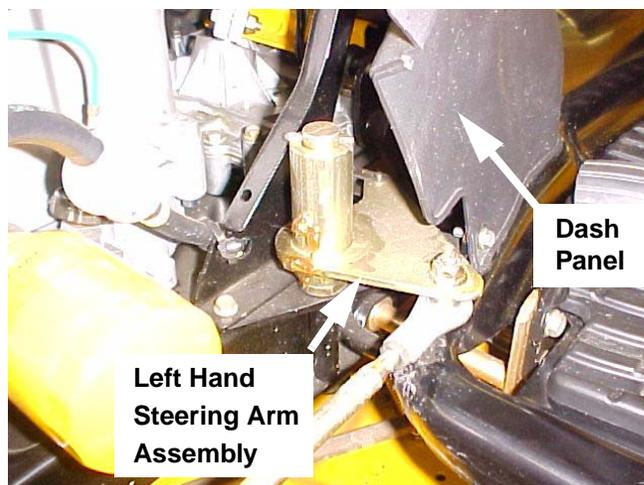

FIGURE 2
6. Open the hood and locate the left hand side steering arm assembly. See Figure 2.